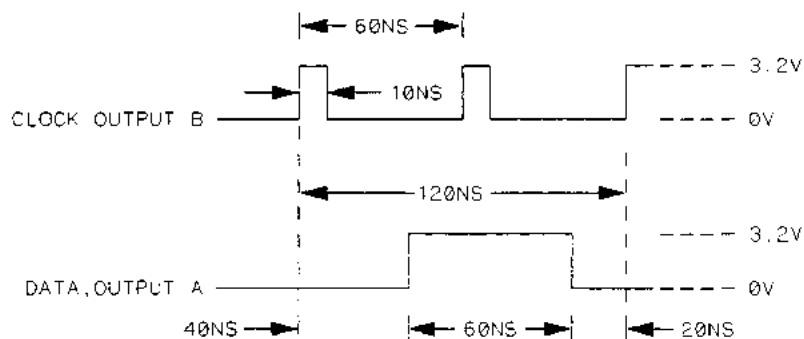

Figure 3-27. Waveform for Data Test 6
2. Adjust the pulse generator for the output in figure 3-27.